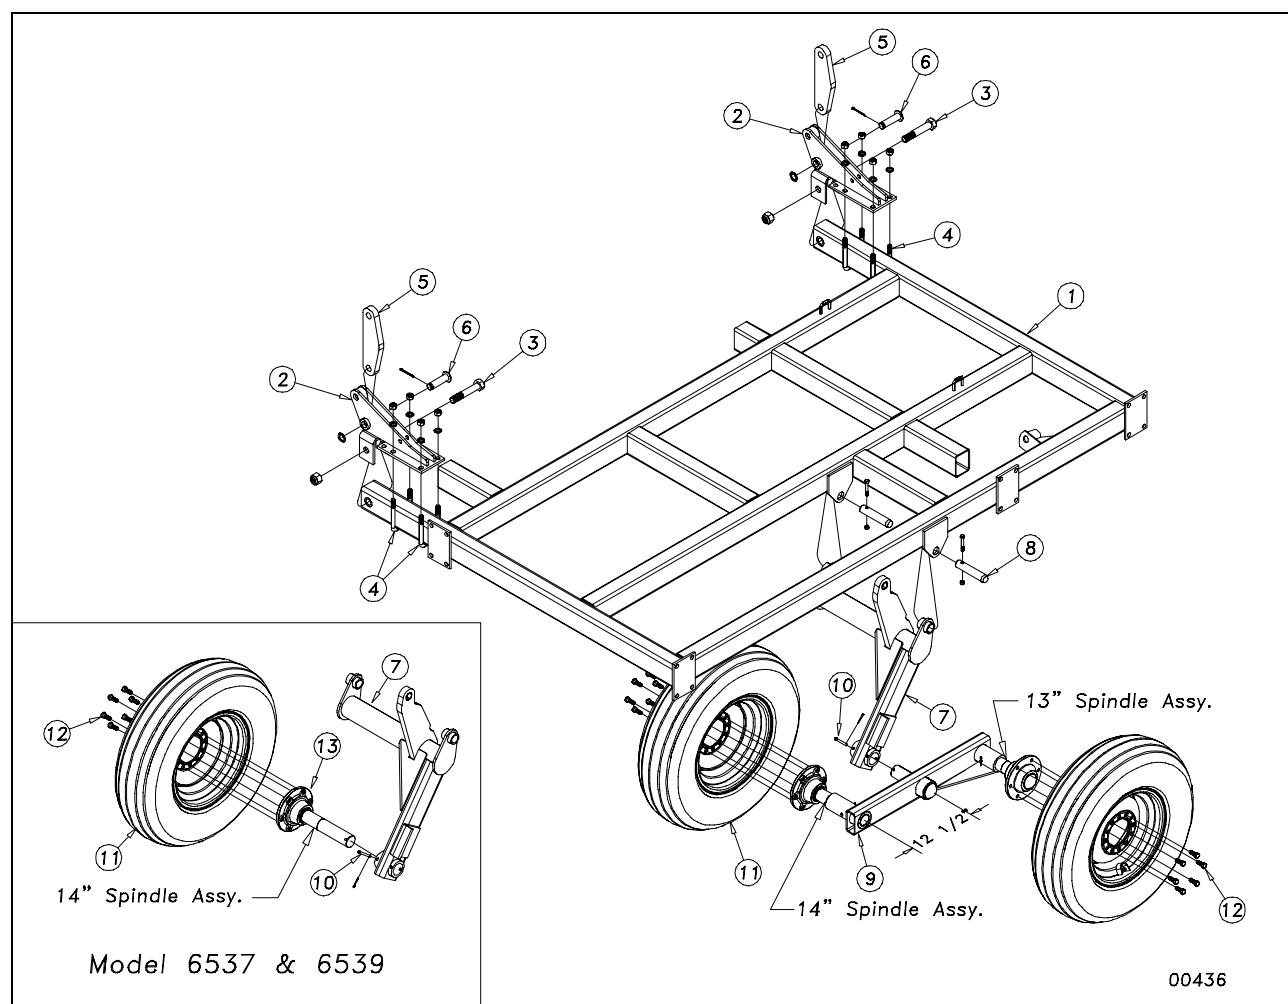

Figure 6
On 5-section models, assemble the outside wing (1) by attaching the outside hinges (2) to the wing with 1 x 6 hex bolt (3) and 5/8 x 3 x 5 1/2 u-bolts (4) as shown in Figure 6. Use a nylon lock nut on the 1 x 6 hex bolt (3) with lock washers and hex nuts on the u-bolt. Attach the 180 degree rocker (5), bulge side out, with the 1 x 3 headed pin (6), 1" machine washer and 3/16 x 2 cotter pin.
lock nuts. Slide the walking beam assembly (9) into the wheel bracket sleeve as shown in Figure 6. Again, it is recommended to use some form of anti-seize product on the spindle. Secure with 5/16 x 3 clevis pin (10) and 5/32 x 1 1/2 cotter pin. Note that the longer 14" long spindle assembly goes to the front. Bolt on the 9.5L x 15 tire and wheels (11) with the 1/2 x 1 1/4 lug bolts (12).